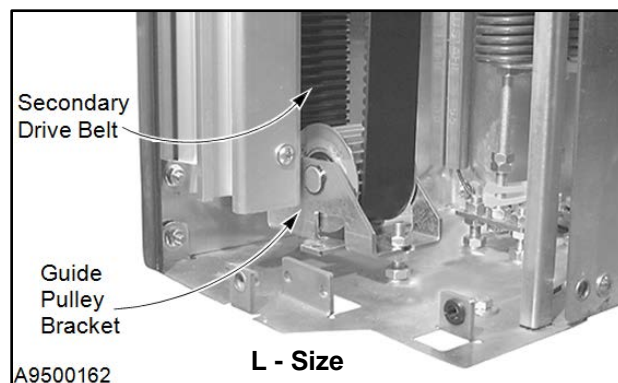
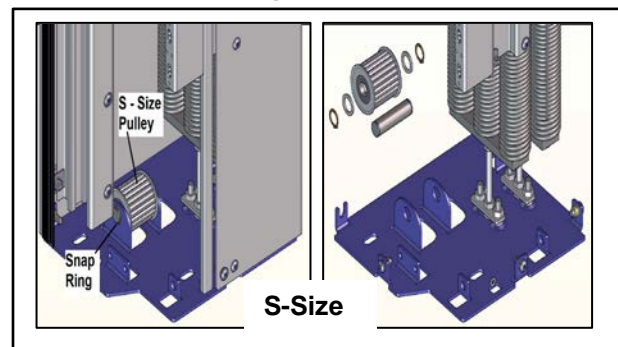

Figure 37
Figure 38
2. Inspect the entire length of both secondary drive belts. The belts should not be frayed, cracked, worn, or damaged. Also check for any damaged or missing teeth. Replace secondary drive belts if necessary. (See Figure 37 and Figure 38.)